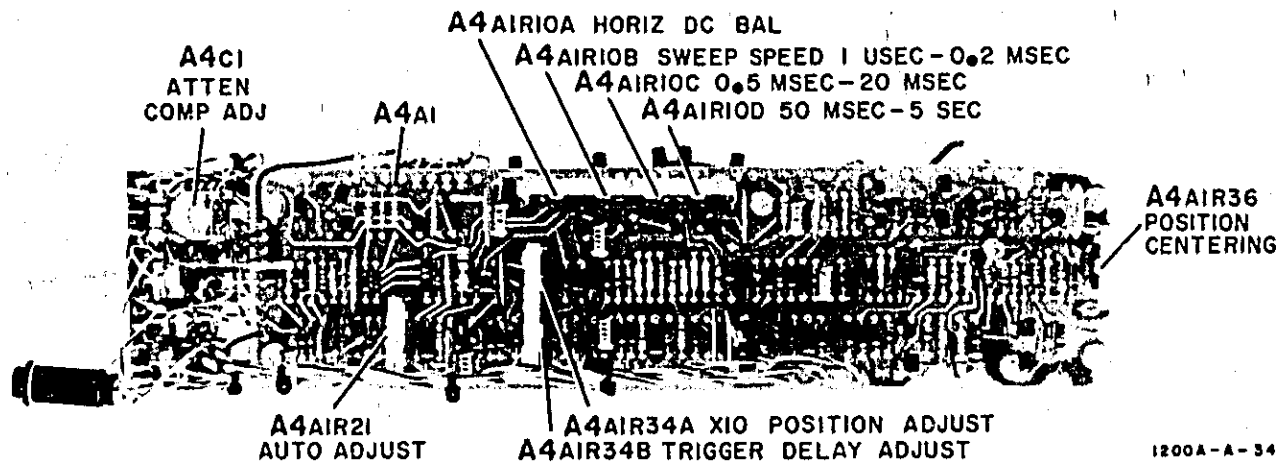

Figure 5-3. Horizontal Module Adjustments
- f. Adjust A4AIR10A (see figure 5-3) to center dot on screen.
- c. Adjust A4C1 (see figure 5-3) for minimum overshoot (observed as two well-defined dots nine div apart). Be sure that intensity is temporarily increased to observe overshoot.
- c. Set A4AIR21 (see figure 5-3) to mid-range.
- d. Adjust A4AIR34B (see figure 5-3) cw until sweep free runs; then adjust it ccw until sweep stops. Center between these points.
- f. Adjust A4AIR21 (see figure 5-3) to obtain triggering on both + and - settings of SLOPE switch.
- b. Adjust A4AIR36 (see figure 5-3) so that beginning and end of trace are equidistant from graticule center when Horizontal POSITION is set fully cw or ccw.
- c. Adjust A4AIR34A (see figure 5-3) to align beginning of trace with graticule center.
- e. Adjust A4A1R10B (see figure 5-3) to obtain one time mark per division.
- h. Adjust A4A1R10C (see figure 5-3) to obtain one time mark per division.
- k. Adjust A4A1R10D (see figure 5-3) to obtain one time mark per division.